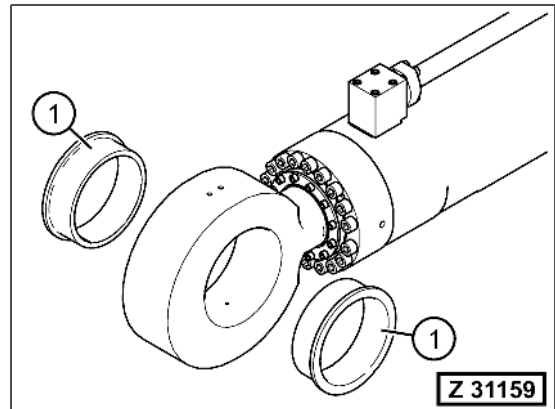

Fig. 5-102
- 34. Check the bushings (Fig. 5-102, Pos. 1) of the bucket cylinder for wear and damage.